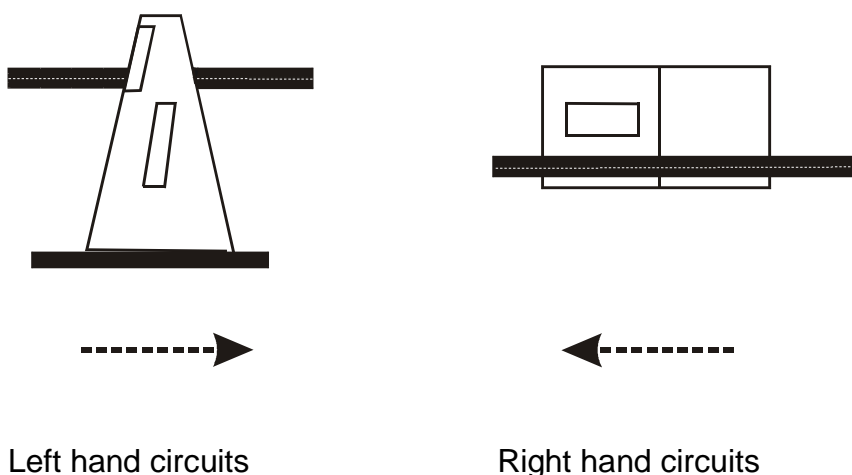

Fig 14. Checking distance out from runway.
- (1) **800 ft circuit only:** Identify new reference point and continue level flight, using LAI work cycle.
- (2) **1000 ft circuit only:** On reaching 800 ft turn onto the downwind leg using 10-20° angle of bank.
- (3) **1000 ft circuit only:** Identify new reference point and continue climb using LAI work cycle.
- (4) **1000 ft circuit only:** At 900 ft select Carb Air to Hot.
- (5) **1000 ft circuit only:** Approaching 1000 ft start transition to level flight (60 kts).
- (6) **Both circuits:** Confirm distance out. On a right hand circuit the runway should appear close to the bottom of your instructor's DV panel. On a left hand circuit it should appear just beyond the airbrake on the wing (See Fig 14).
- (7) Abeam the touchdown point identify the Approach Reference Point on the final approach (approximately at 45° from track).
- (8) Continue downwind until abeam the approach reference point.